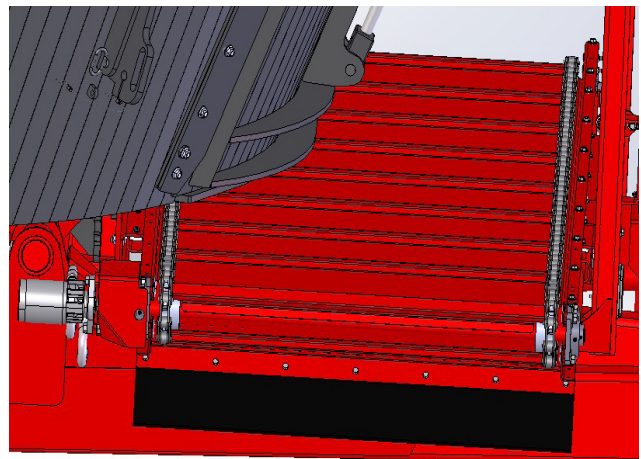

Figure 11: Slide the conveyor in place
8. From the right side of the machine, slide the assembled flat bidirectional conveyor into the conveyor slides, see *Figure 11*.